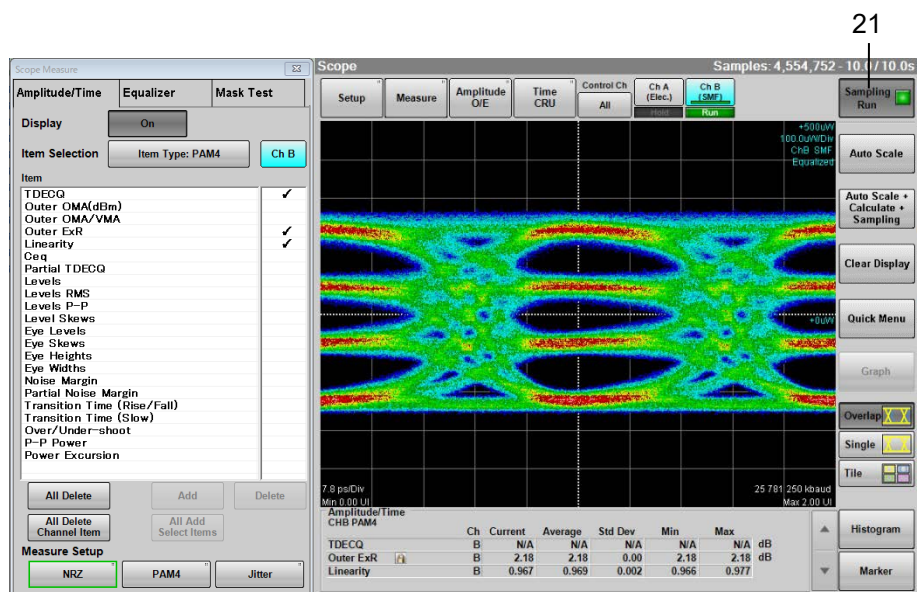

Figure 6.9.1.2-8 Display Example of Measurement Results
22. To display the not-equalized waveform, set Display Equalized Waveform shown in Figure 6.9.1.2-7 to **Off**.